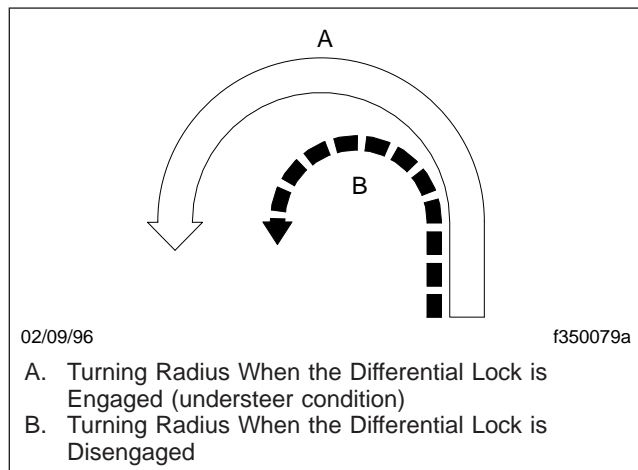

Fig. 15.3, Turning Radii
3. Drive cautiously and do not exceed 25 mph (40 km/h). When the differential is fully locked, the turning radius will increase because the vehicle understeers. See Fig. 15.3.